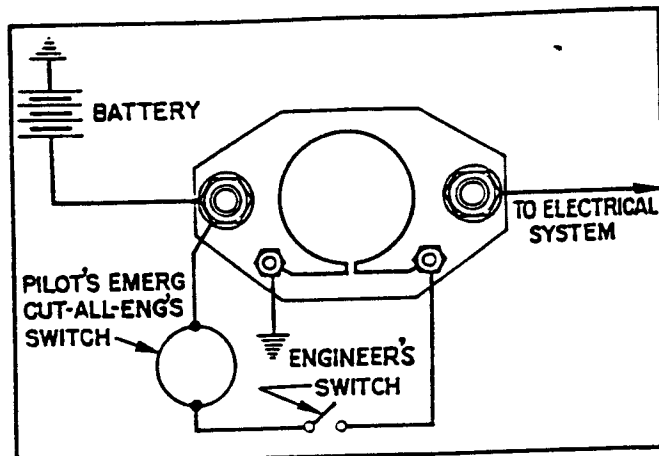

Figure 12. Battery Wiring Diagram
(h) BATTERY CIRCUIT RELAY. (Figure 12.)
5. INSTALLATION.- Mount the relay on the panel and connect all leads, connecting the battery lead last. Refer to wiring diagram if necessary (figure 12).